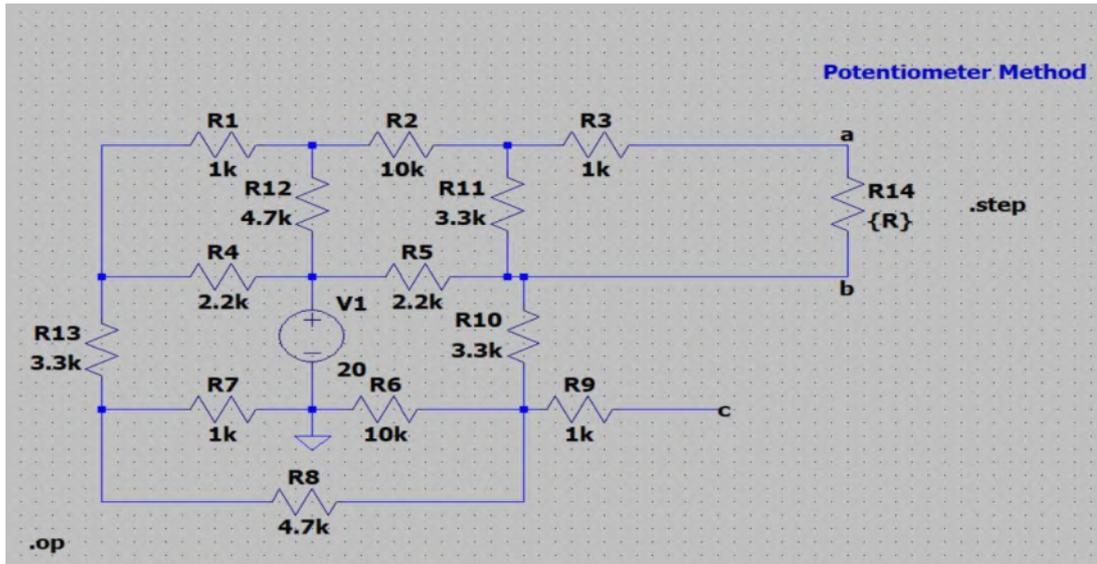

Figure: 4
- Right Click the .step in the schematic shown in figure 4.